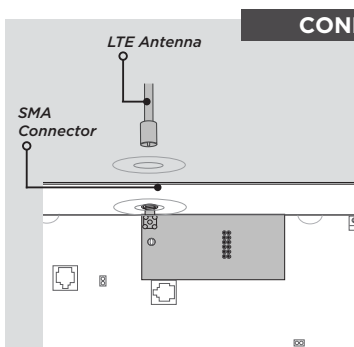

Figure 4: XT30INT/XT50INT Series Panel
2. Connect the 263LTE-INT SMA connector to the included antenna at the hole in the top of the panel. See Figure 4.